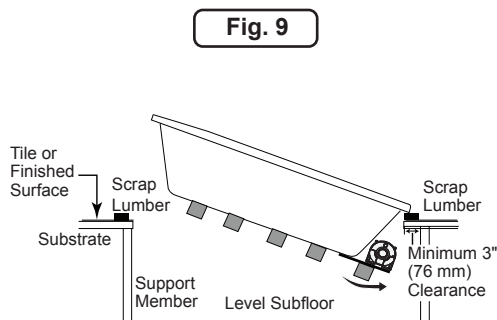

Fig. 9
- Install the unit. For units equipped with a motor/pump and/or a blower, insert the motor/pump end first, lowering the bathtub into the opening (Figure 9).